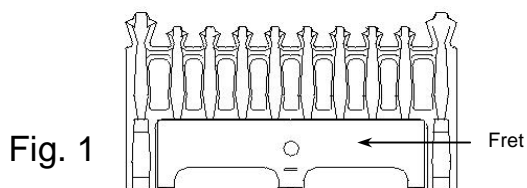

Fig. 1
1. Remove the fret (Fig. 1), to gain access to the controls (Fig. 2).